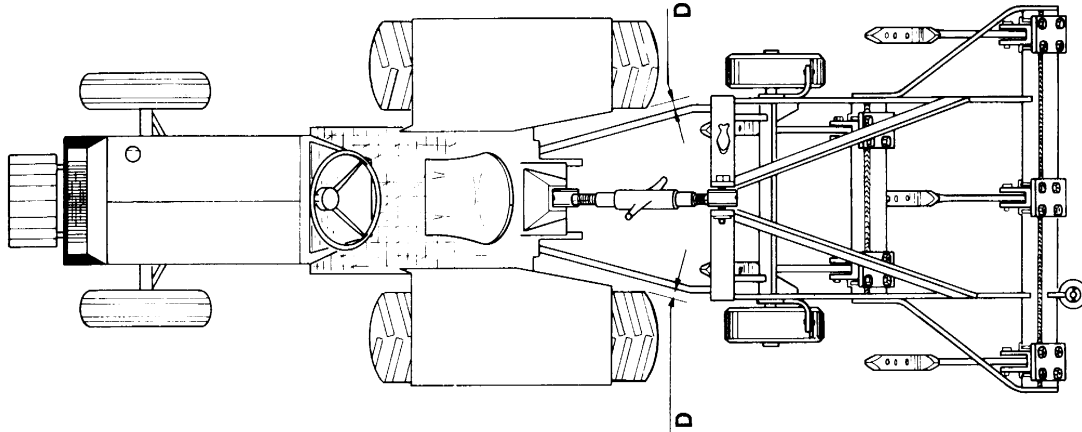

Figure 9
- 07 - Align the upper hitch of subsoiler with the 3^o point of tractor; make sure if the distance "D" of lower arms from hydraulic are equal related the tractor tires as figure 9. The lower arms should be level with each other.